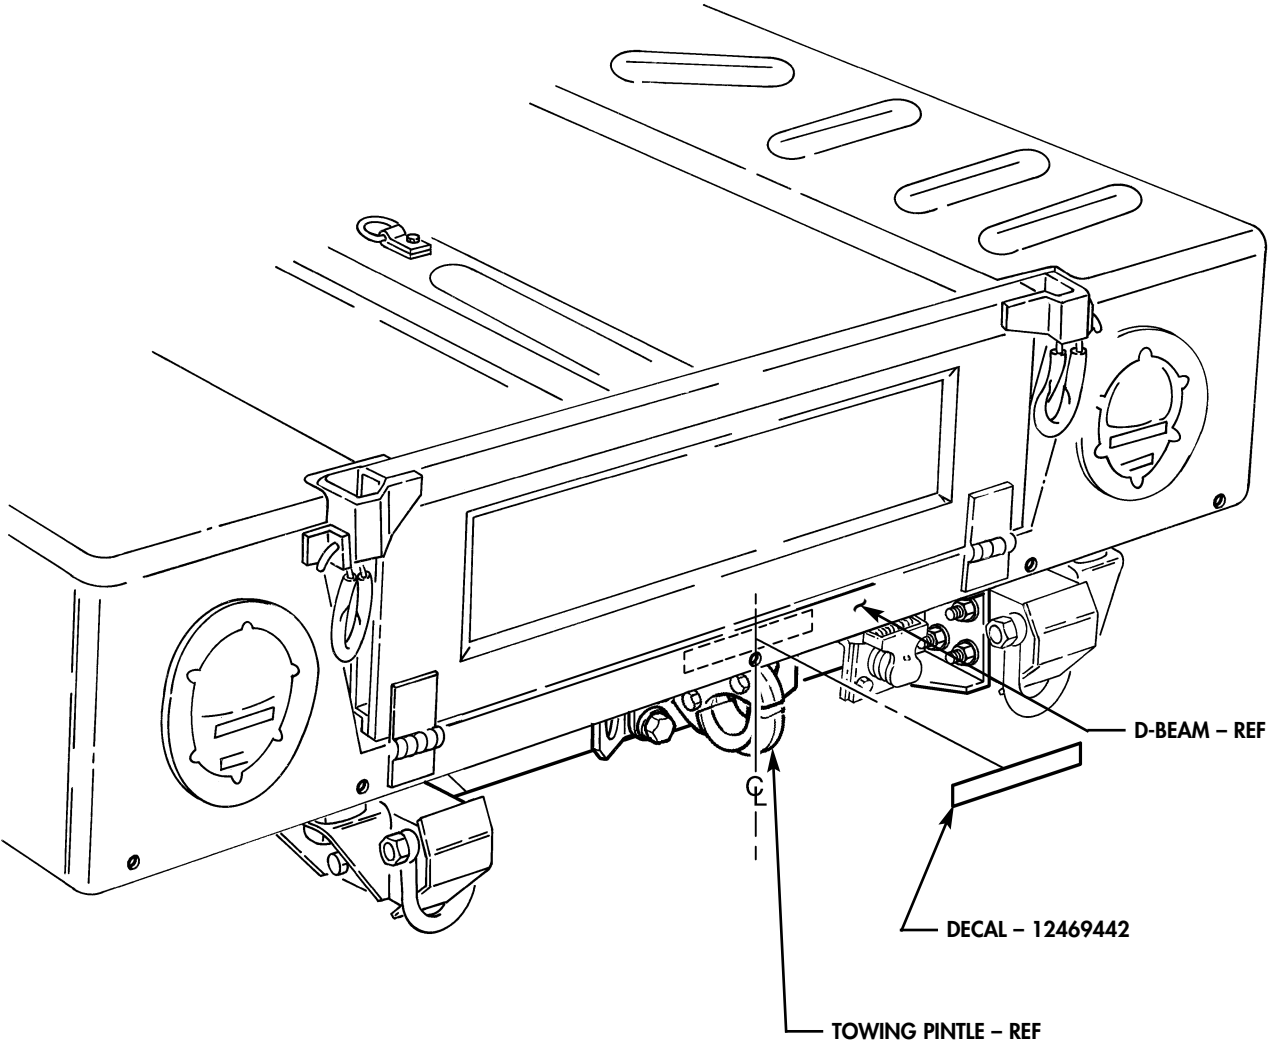

FIGURE 12
- (3) Install 12469442 decal on D-beam centered above tow pintle as shown in figure 12.